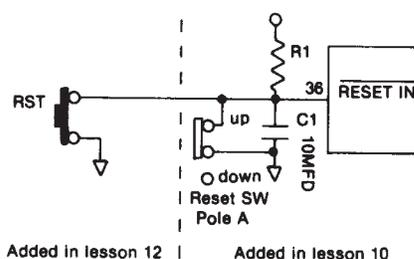

Figure 12-9
A simplified schematic of the Restart (RST) switch circuitry is shown in figure 12-9. With the Reset switch up, the $\overline{\text{RESET IN}}$ pin of the 8085 is at ground and the RST switch has no effect. When the Reset switch is down and the 8085 is running, pressing the RST switch places a ground (0) on the $\overline{\text{RESET IN}}$ pin and stops the 8085. Releasing the RST switch ungrounds the $\overline{\text{RESET IN}}$ pin. This has the same effect as putting pole A of the RESET switch down as described in lesson 10.